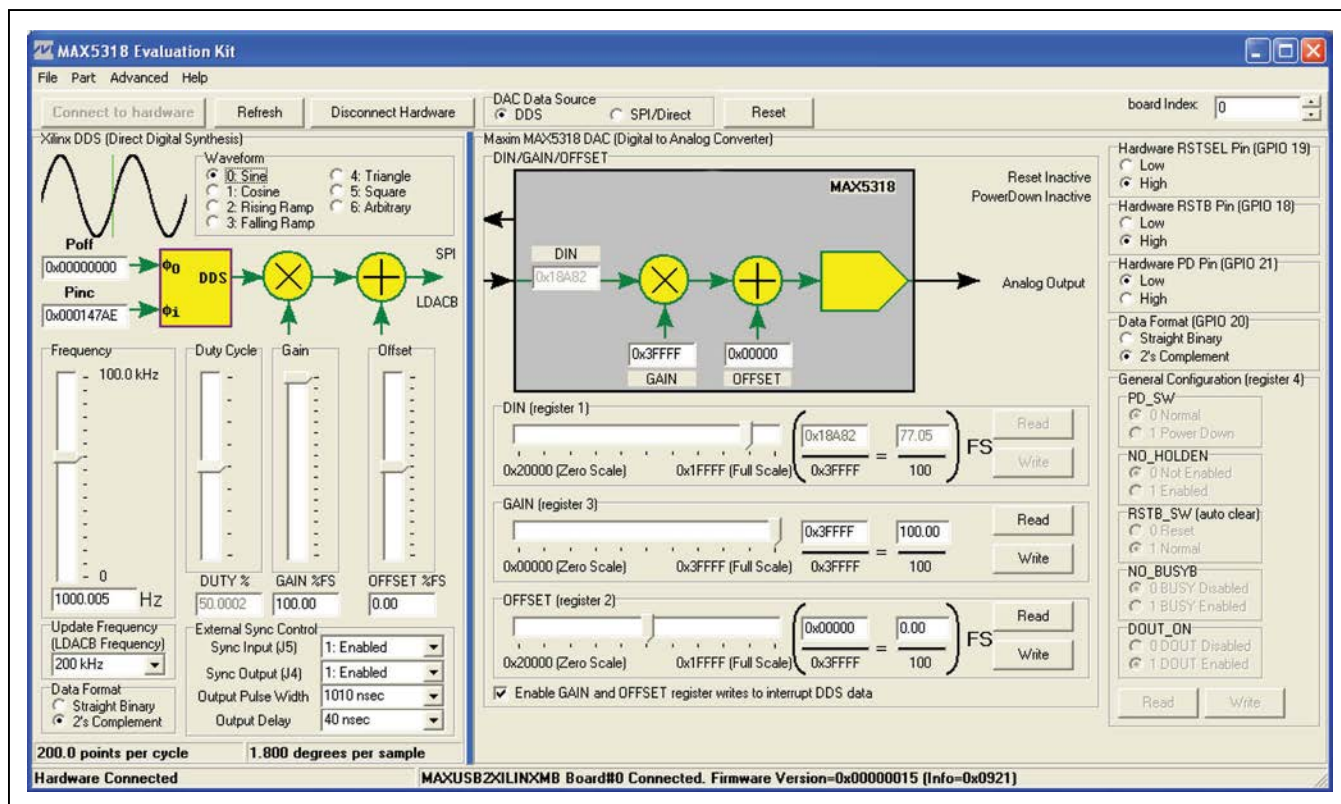

Figure 2. MAX5318 EV Kit Software Main Window (Block Diagram Tab)
- 16) Start the EV kit software by opening its icon in the Windows **Start | Programs** menu. The EV kit software main window appears, as shown in Figure 2. Within 5s, the software should automatically connect to the hardware; verify that **MAX5318EVKIT Hardware Connected** appears in the bottom-left status bar.